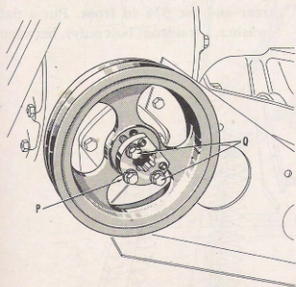

Fig. 19
3. Remove belt pulley by removing two capscrews on pulley hub and loosening the third capscrew, P, Fig. 19. Insert the two capscrews, Q, into the tapped holes in the hub; tightening those two screws will pull the pulley.